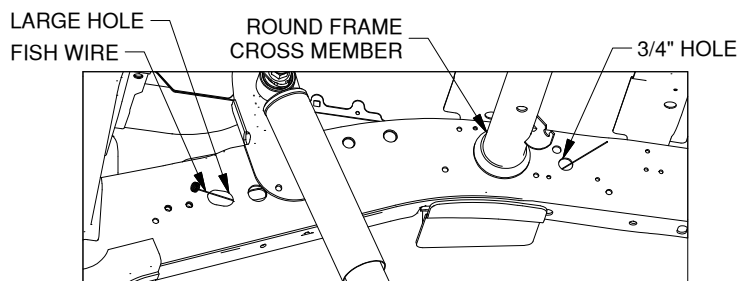

Figure B1: Looking at inside of frame rail.
**1. Prepare for mounting bracket installation.** Locate the rear cross member mounting brackets, two fish wires, the locking straps, the 1/2" x 1-1/2" carriage bolts, the O-rings, two 1/2" lock washers, and two 1/2" finish nuts. Identify the 3/4" hole on the inside of the frame rails behind the rear axle where the brackets will mount, and the larger hole in the frame ahead of the axle, see Figure B1.